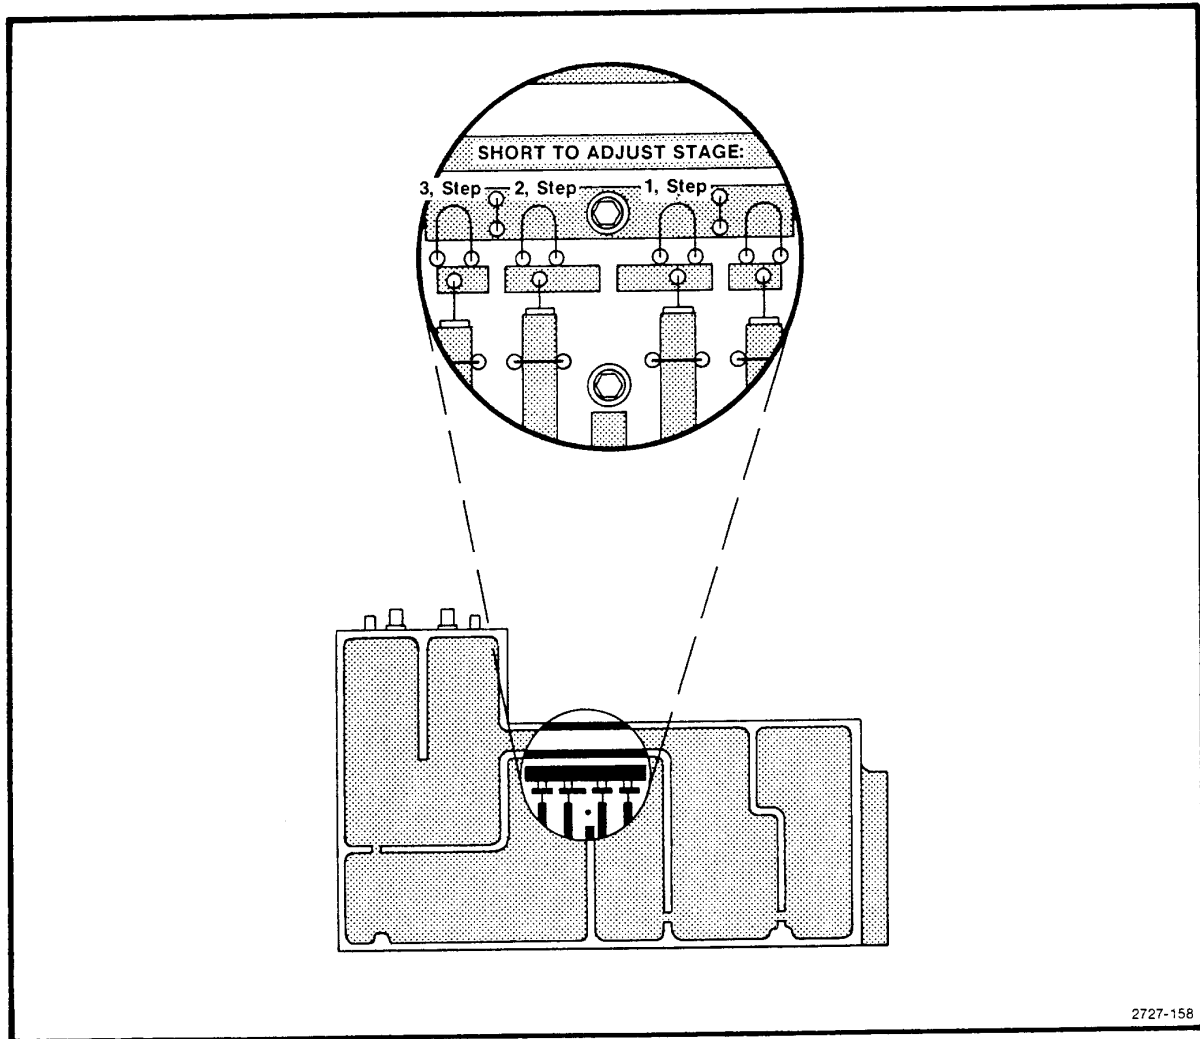

Fig. 4-15. Filter tune tabs in the 829 MHz converter.
f. Adjust the  $1/4$  wavelength lines in the filter in sequence, starting with the resonator at the 829 MHz input (see Fig. 4-15). Adjustment is made by shorting the adjacent resonator to ground with a low inductance conductor, such as a broad blade screwdriver, then bend the loop or tab of the respective stub with a non-metallic tuning tool to change the series capacitance of the resonator.